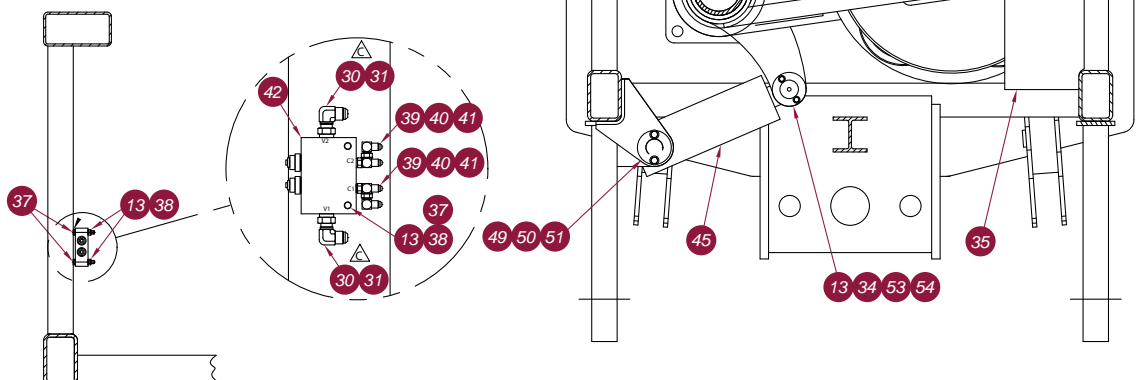

Fig. 6-21 Pipe Rack Top View
5. Hoist pipe rack assembly into position. Line up bearing cap bolt holes and install bearing cap bolts, nuts and washers (fig. 6-17). Line up swing cylinder rod ends with clevises and install pins (fig. 6-21) and retaining bolts and washers. Tighten bearing cap bolts.